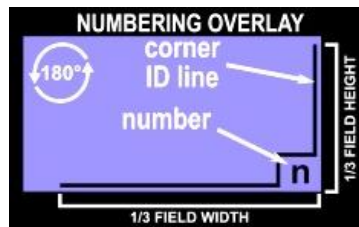
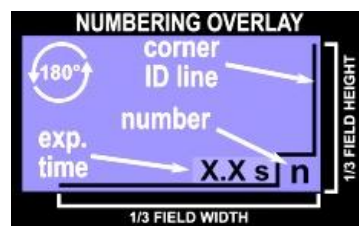

Figure 31 - Step & Repeat mode with "Number exposures" option
Figure 32 - "Add exposure time on overlay" option
- **“Number exposures...”**, **“...and add exp. time”** options. Those options respectively add on each design an overlay on their bottom right corner indicating their number order (Figure 31) and their exposure time in s (Figure 32).